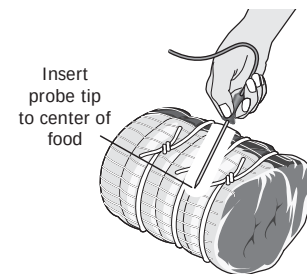

Figure 28: Probe in thickest area of food
- Insert the probe so that the probe tip rests inside the center of the thickest part of meat or food (See Figure 28). For best results, do not allow the probe temperature sensor to contact bone, fat, gristle, or the cookware.